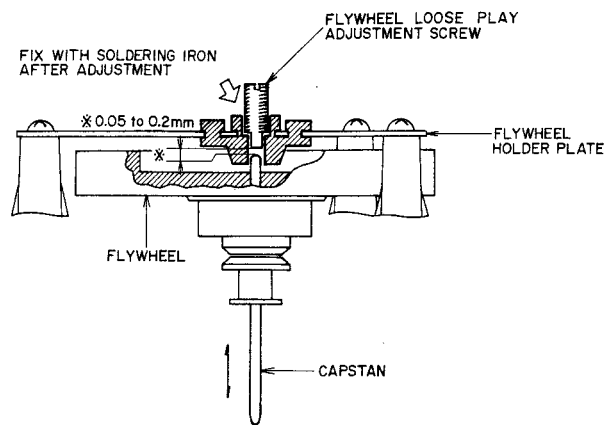

Fig. 7 Flywheel Loose Play Adjustment
1. FLYWHEEL LOOSE PLAY ADJUSTMENT (Refer to Fig. 7)